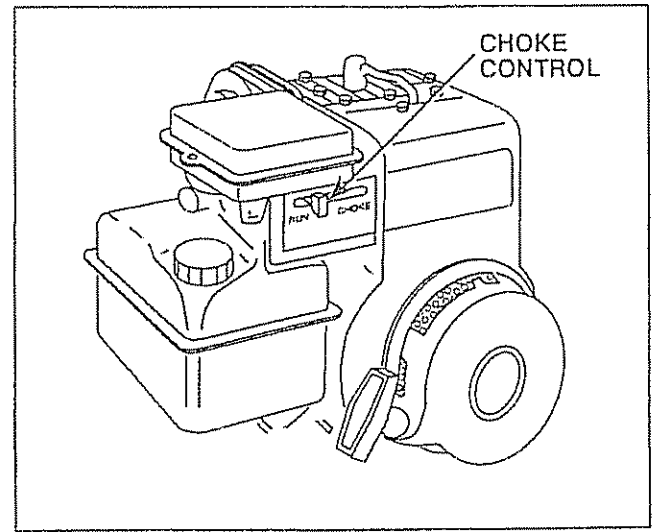

FIGURE 7
- When restarting a warm Engine, place Throttle Control in "FAST" position. NOTE: IT MAY BE NECESSARY TO USE CHOKE (Fig. 7).